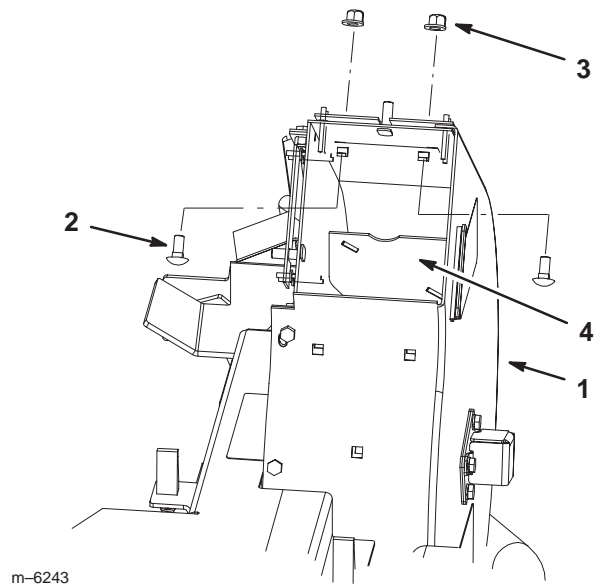

Figure 35
7. Loosely install 2 bolts into the liner and the blower (Fig. 35).